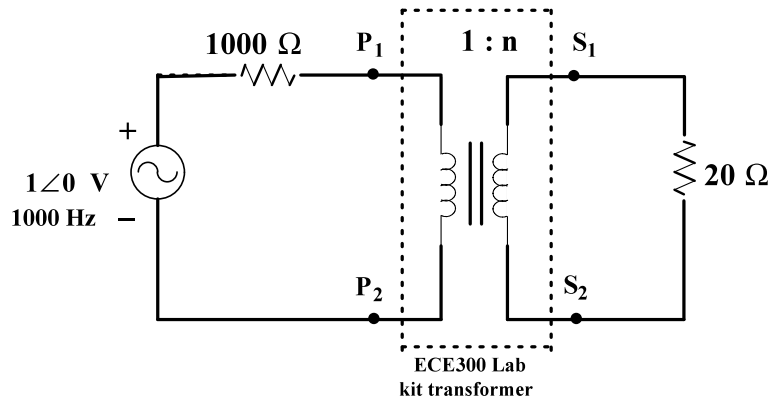

Figure 4.25 Circuit for Part 5LE.
- (a) Set up the circuit of Figure 4.25 without the load resistance. Apply a 2V peak to peak sine wave of 1000 Hz.